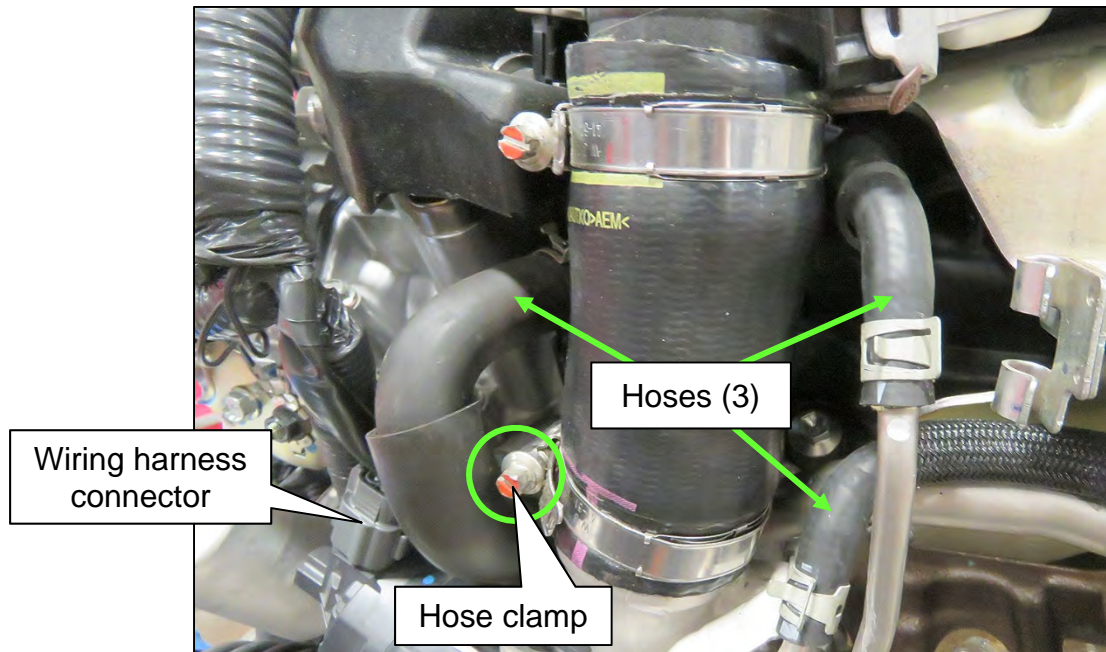

Figure 81
129. Reconnect the wiring harness connector shown in Figure 81.
130. Reconnect the three (3) hoses shown in Figure 81.